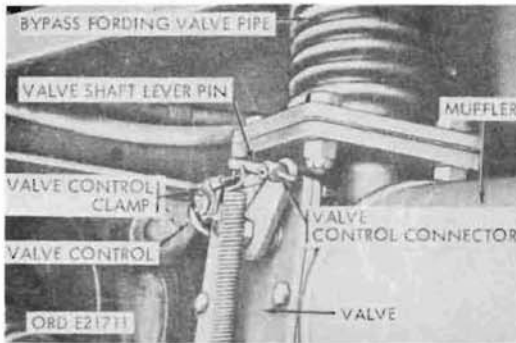

Figure 276. M50 exhaust bypass valve
a. Exhaust Bypass Valve (Fig. 276).
- (1) Removal. Loosen screw securing valve control connector on valve control wire, and remove connector. Remove safety nut securing valve control clamp on valve body, and remove clamp and valve control from valve. Remove tailpipe. Loosen safety nuts and screws on muffler-to-support clamp holding muffler in place. Loosen two safety nuts holding U-bolt of muffler-to-valve clamp. Pull muffler back away from valve. Loosen safety nuts holding